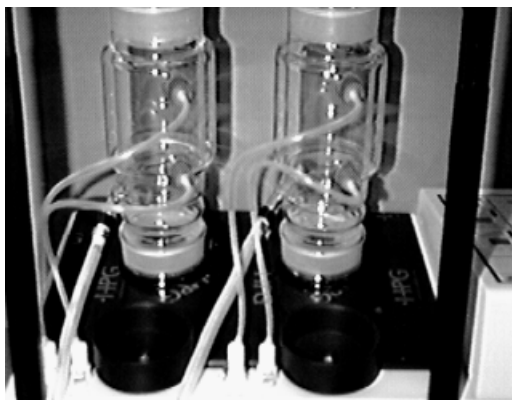

Figure 26. Condenser Connections, viewed from the back
- b Attach the top condenser fitting (coolant OUT) to the TurboVap 500 OUT and the lower condenser fitting (coolant IN) to the TurboVap 500 IN as shown in Figure 26.